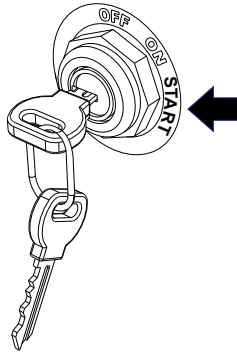

Figure 17. Engine Switch (Start Position)
- Place the ignition key (Figure 17) in the **START** position and hold it until the engine starts. When the engine starts, release the key, allowing it to return back to the **ON** position.